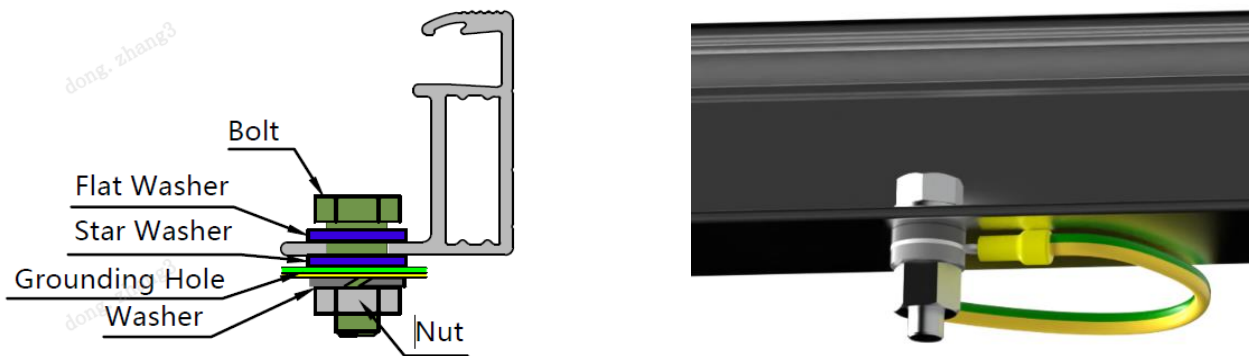

Fig. 12 Grounding of PV modules
- i) JinkoSolar recommends two types of grounding: bolted grounding, shown in Figure 12, and clamp grounding. The bolts should be tightened when grounding is installed and no damage should be done to the module frame or the grounding wire.